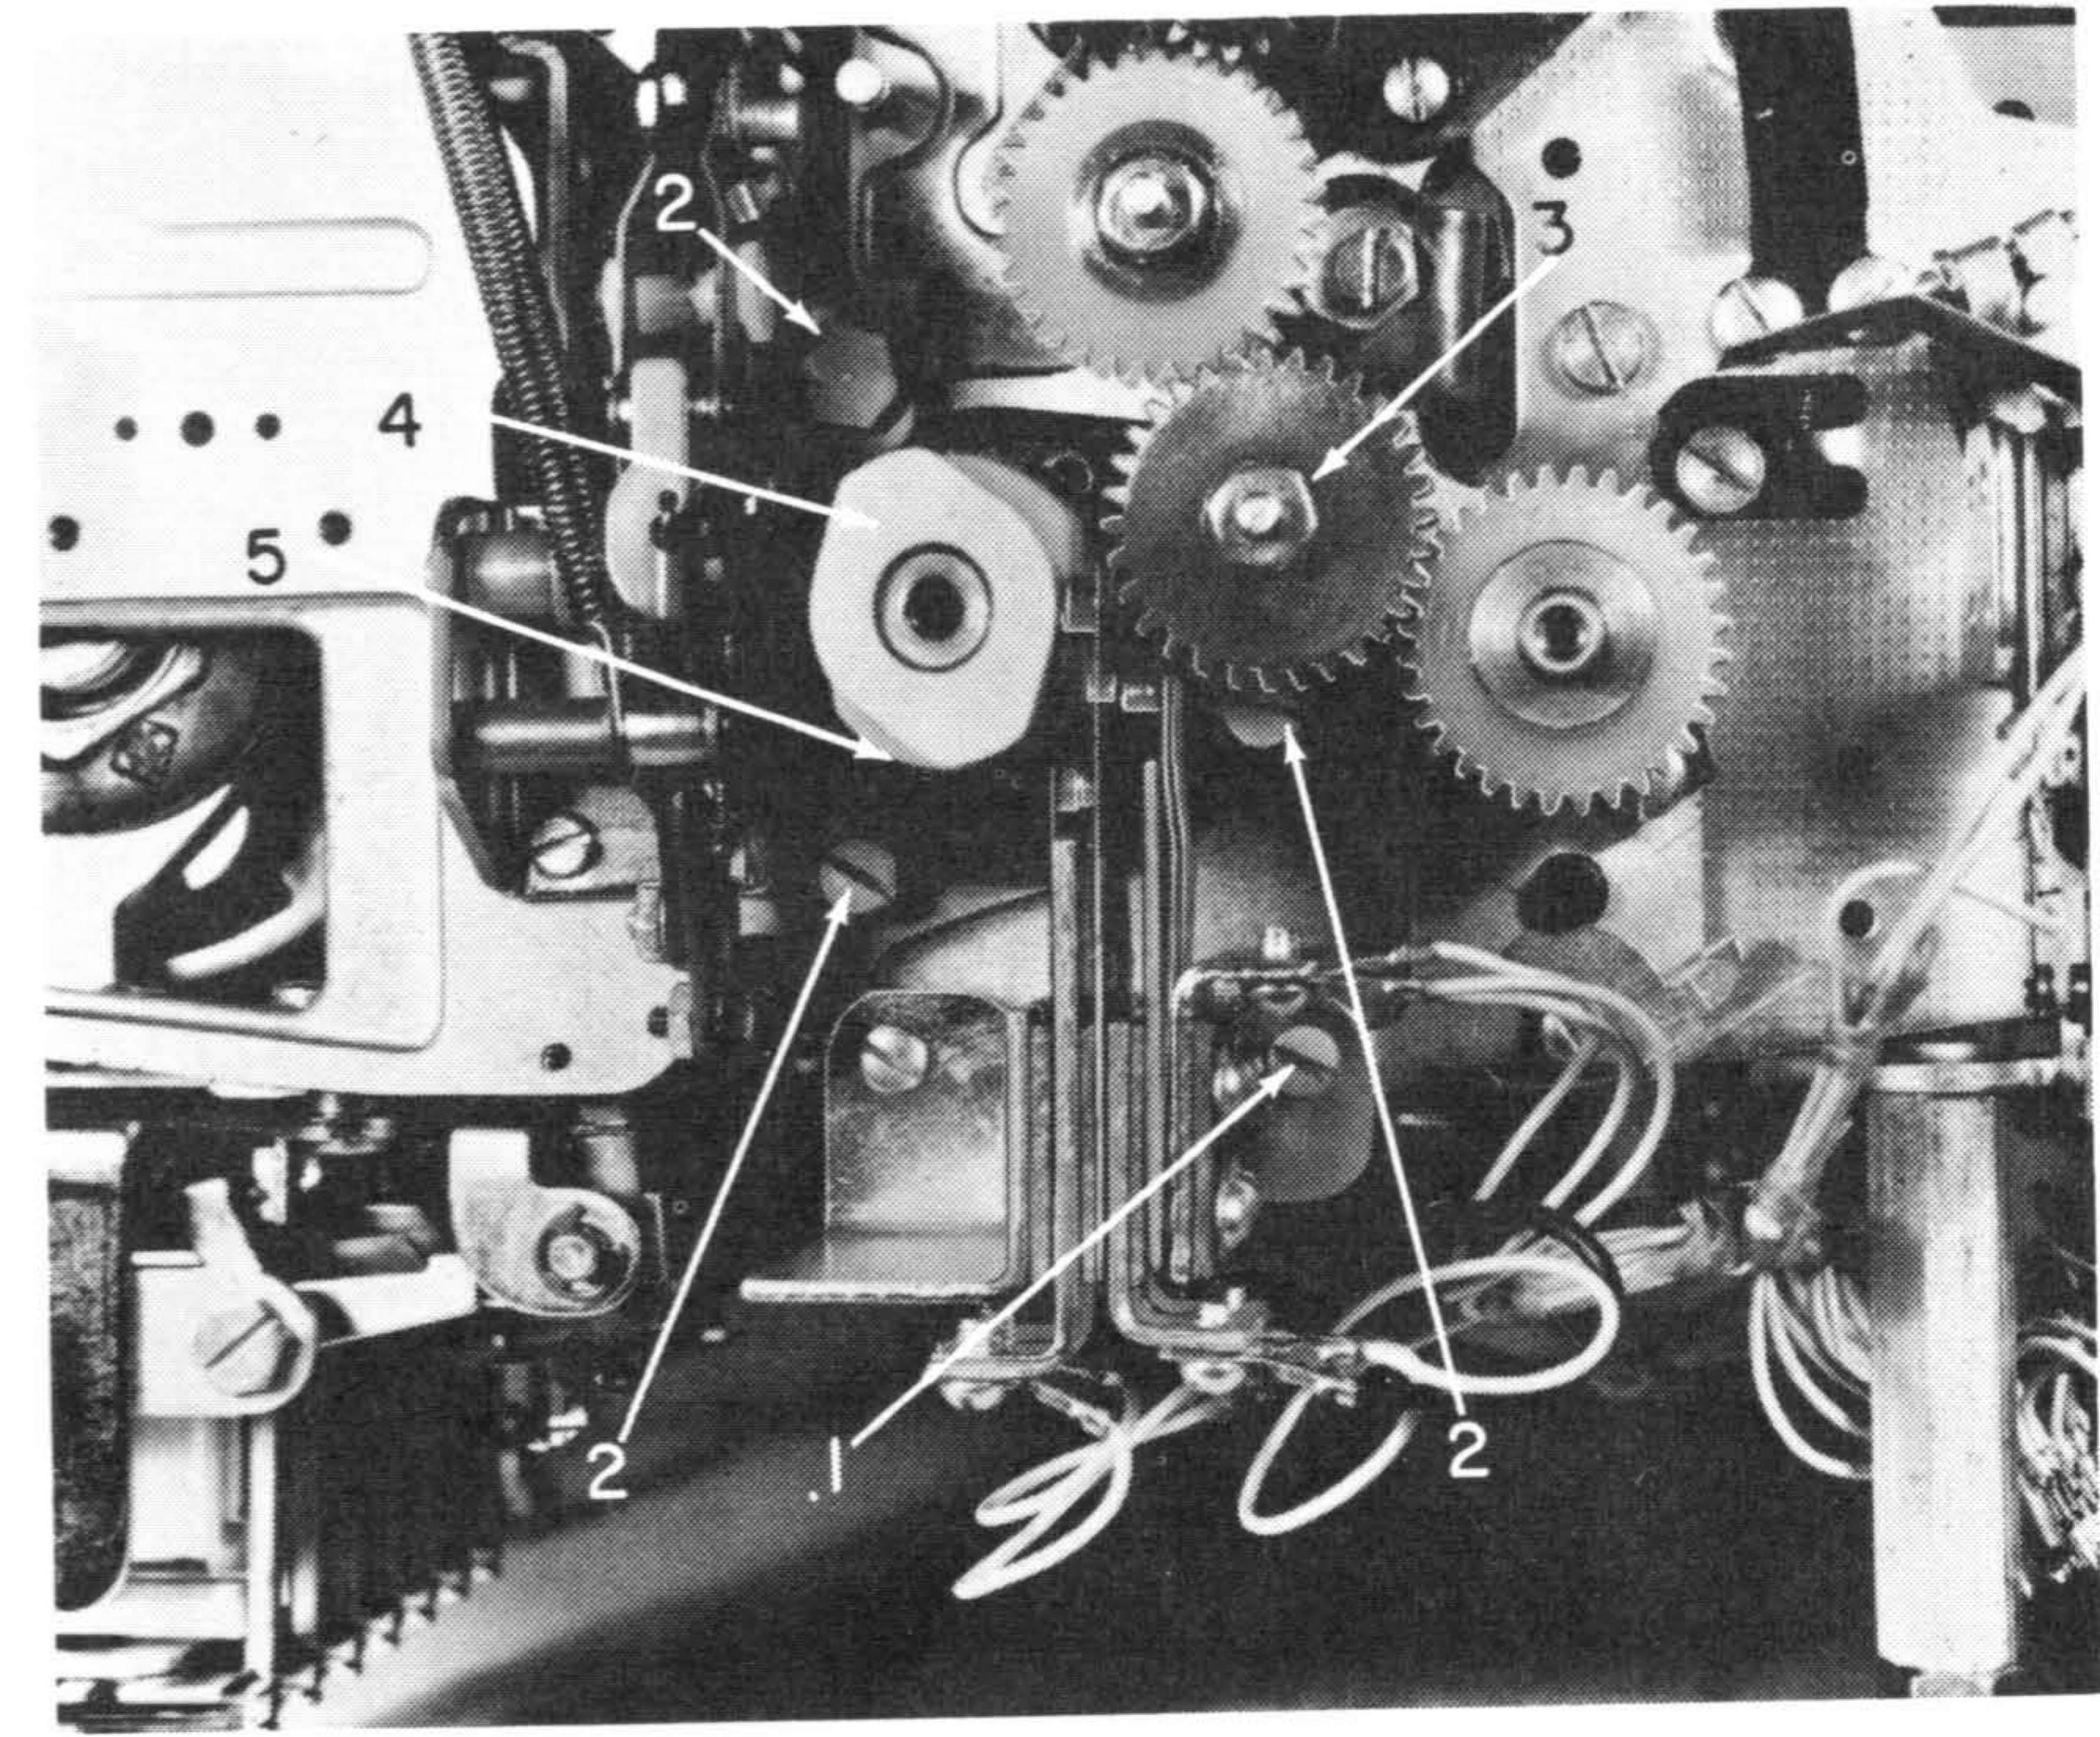
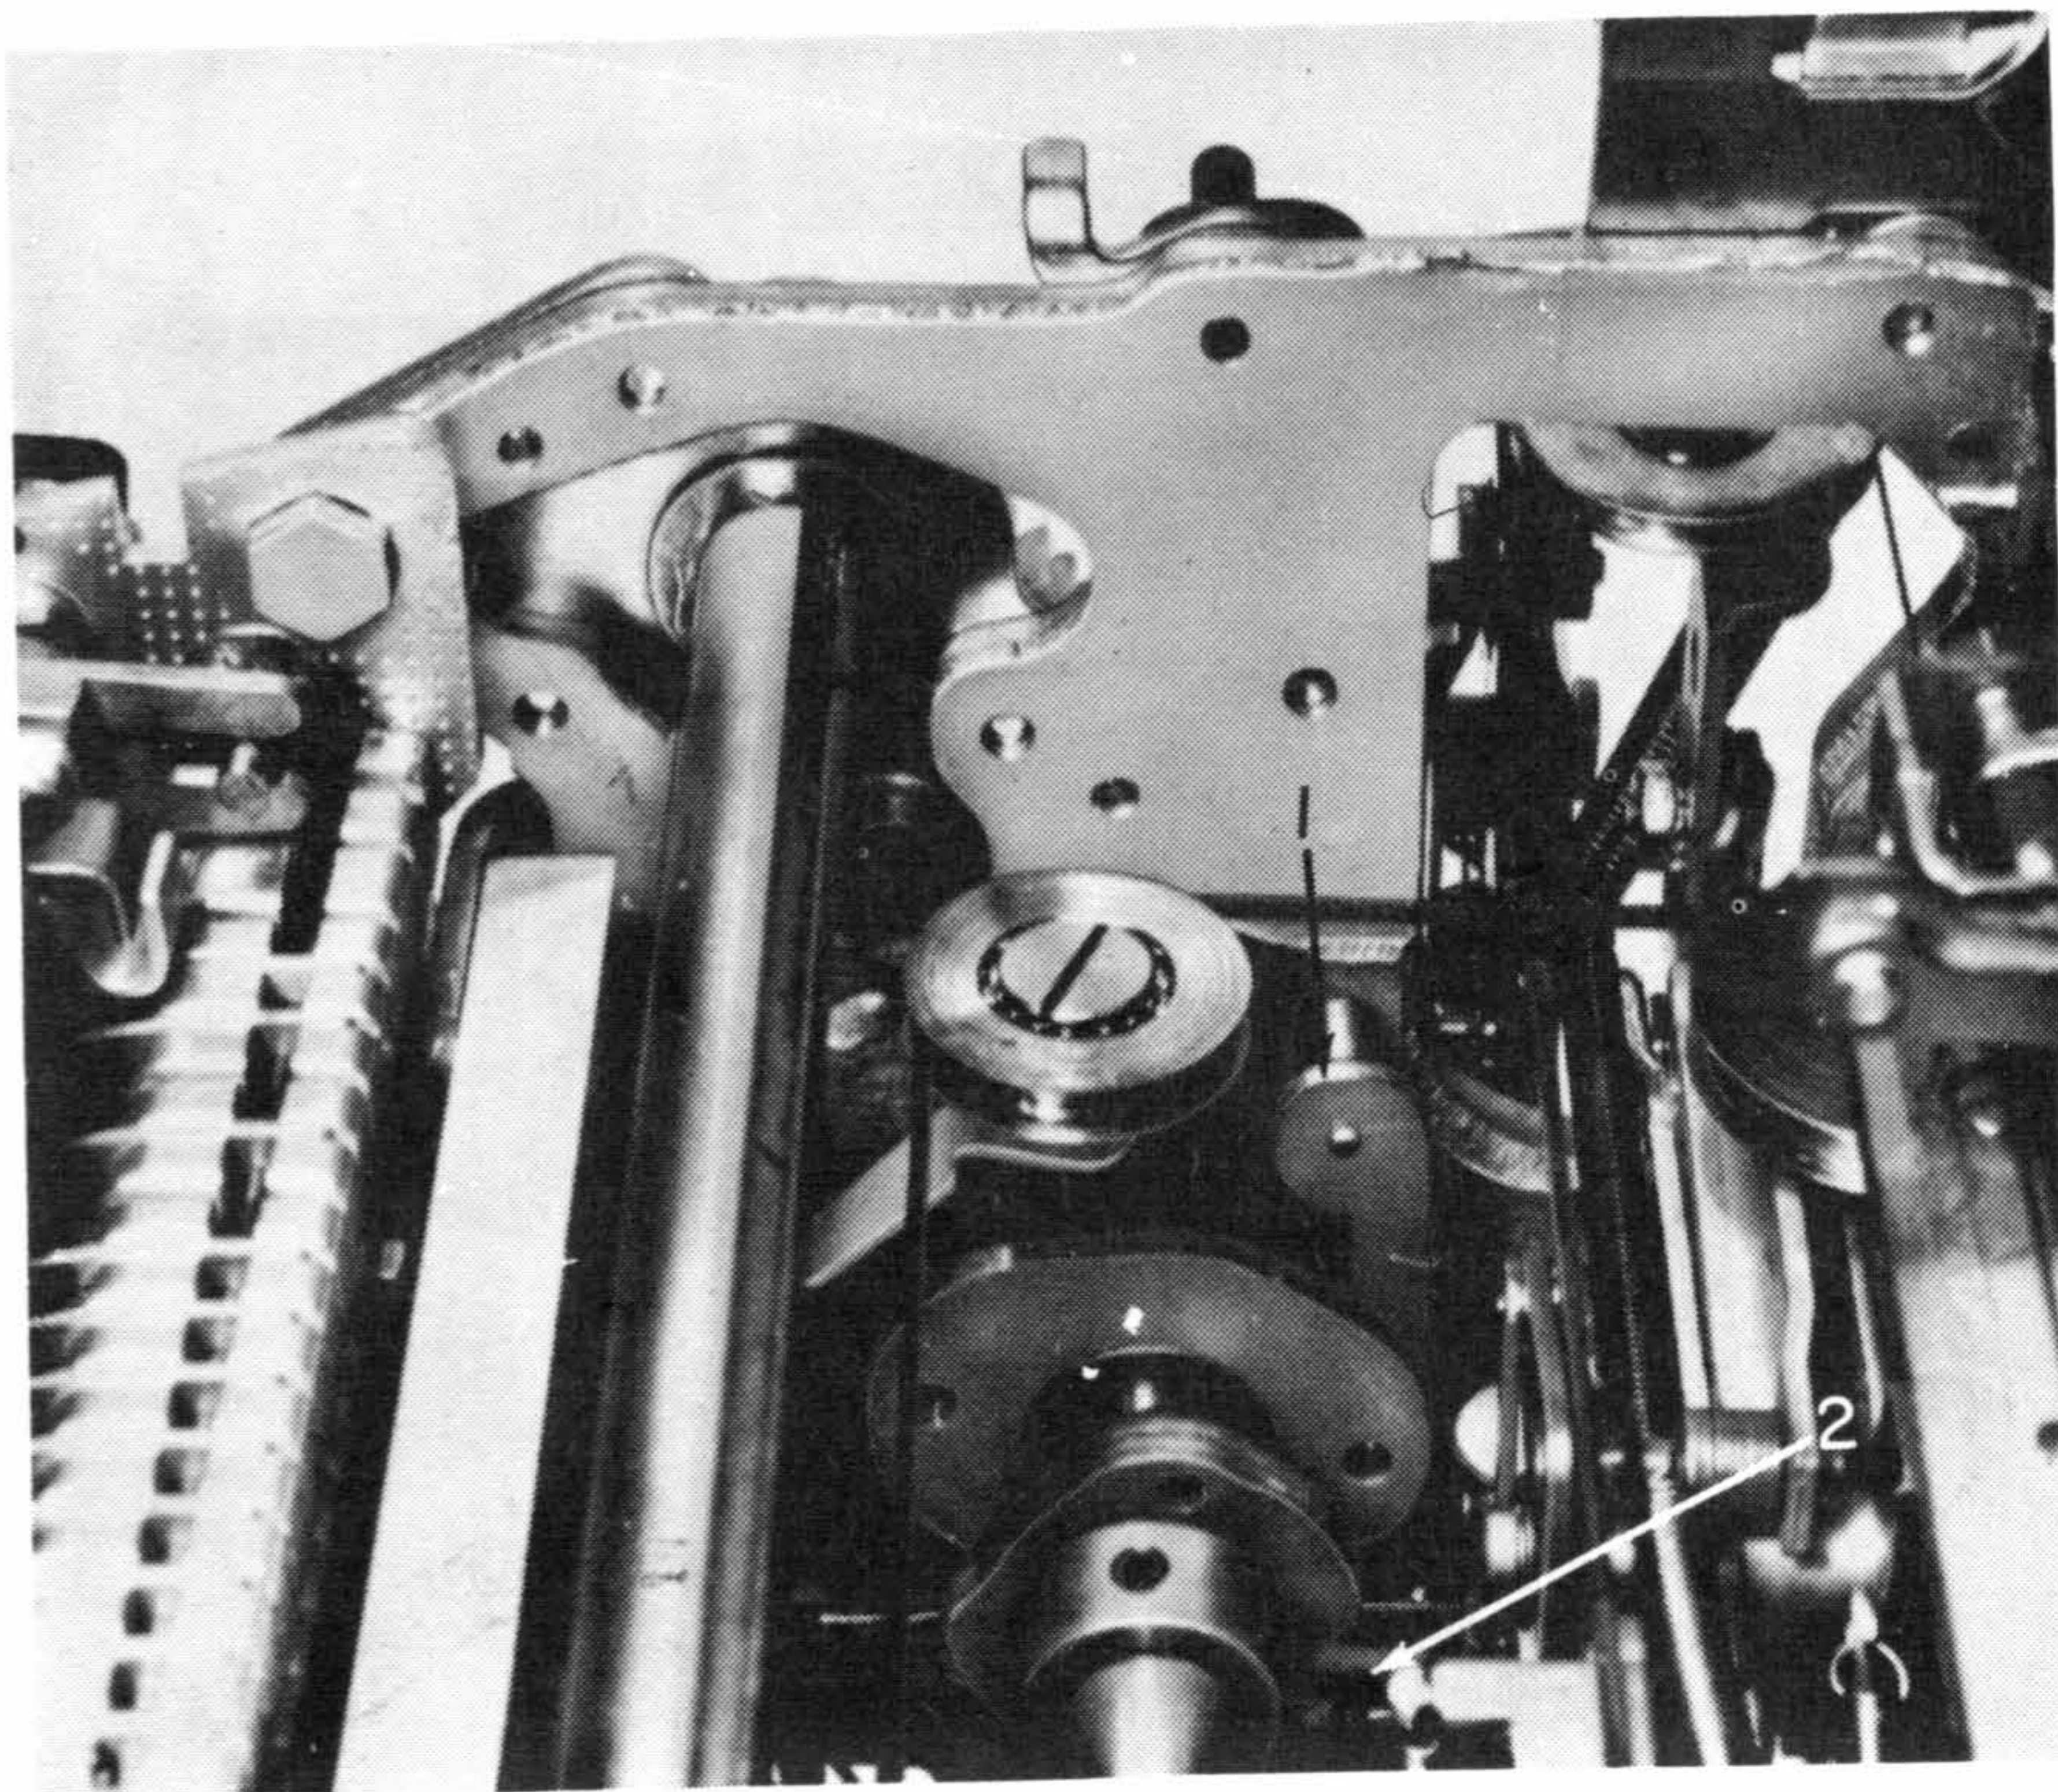

Figure 4. Cycle Clutch and Cycle Shaft Removal
Figure 5. Cycle Clutch and Cycle Shaft Removal
9. Remove the front screw from the C1 - C2 contact assembly (#1, Figure 4) and swing the assembly down out of the way of the bearing plate.
10. Remove the cycle-clutch check pawl and spring (#1, Figure 5).
11. Remove the three bearing-plate screws (#2, Figure 4).
12. Remove the bronze intermediate gear (#3, Figure 4).
13. Remove the C1 - C2 cams (#4, Figure 4) and the cycle shaft gear (behind the C1 - C2 cams).
14. Remove the bearing plate (#5, Figure 4) by prying it away from the frame (front end first) with a screwdriver and sliding it off the cycle shaft.
15. Force the positive bail down with a screwdriver (#2, Figure 5), making sure all the latches are under the bail. Insert a bristol wrench through the lower left bearing plate mounting hole (#2, Figure 4) over the top of the bail to hold it down.